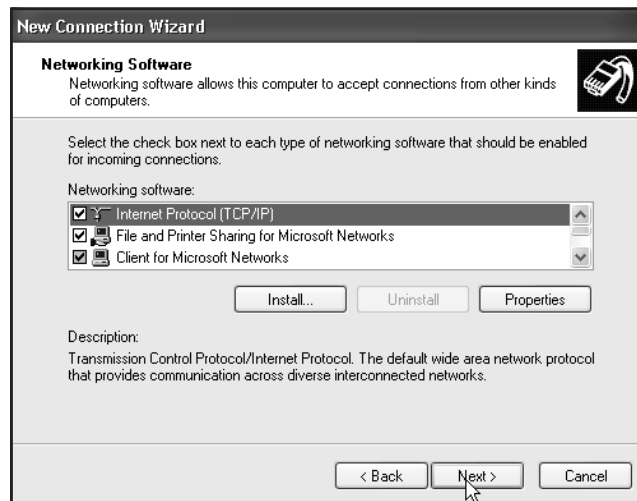

Figure 216 Selecting the Network Software
9. Add the network protocols to the network. TCP/IP must be added at this time if not already in the protocol list. See Figure 216. Click on **Next**.